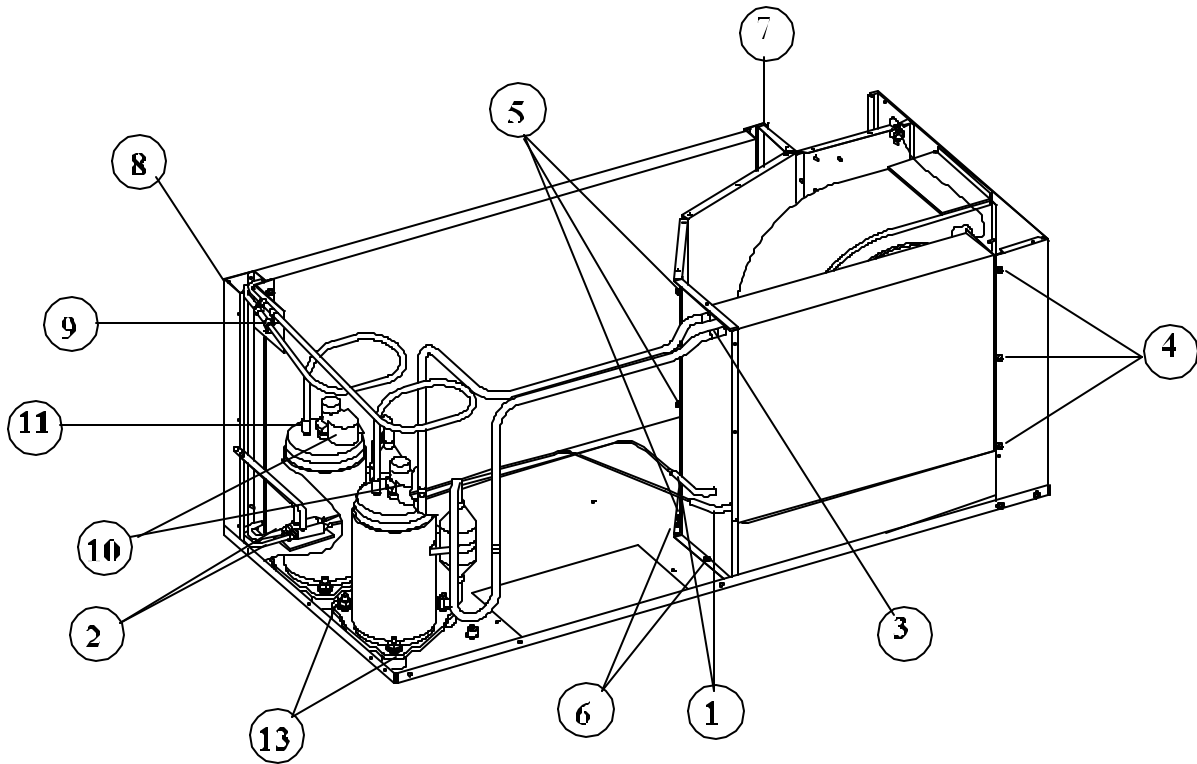

FIGURE 12
5. Unbraid cap tube assembly/assemblies from points (See #1 and #2, Figure 12). Make note of plumbing and cap tube locations (the replacement tubes will have to go back to the same locations).
3. Unbrazed joints #1 and #3, Figure 12.
5. Remove screws (#4, #5, #6, Figure 12).
6. Upon reassembly, the references made on Figure 12 shall be used for proper reassembly.
2. Remove screws along wirebox side of coil (See #7, Figure 12).
3. Remove corner panel (See Figure 12).
6. Unbrazed discharge and liquid lines at points #2 and #9, Figure 12.
4. Remove terminal caps (See #10, Figure 12).
6. Unbrazed plumbing at points #11 and #12, Figure 12 (protect any wiring and insulation from torch flame).
7. Remove mounting nuts and washers (See #13, Figure 12).